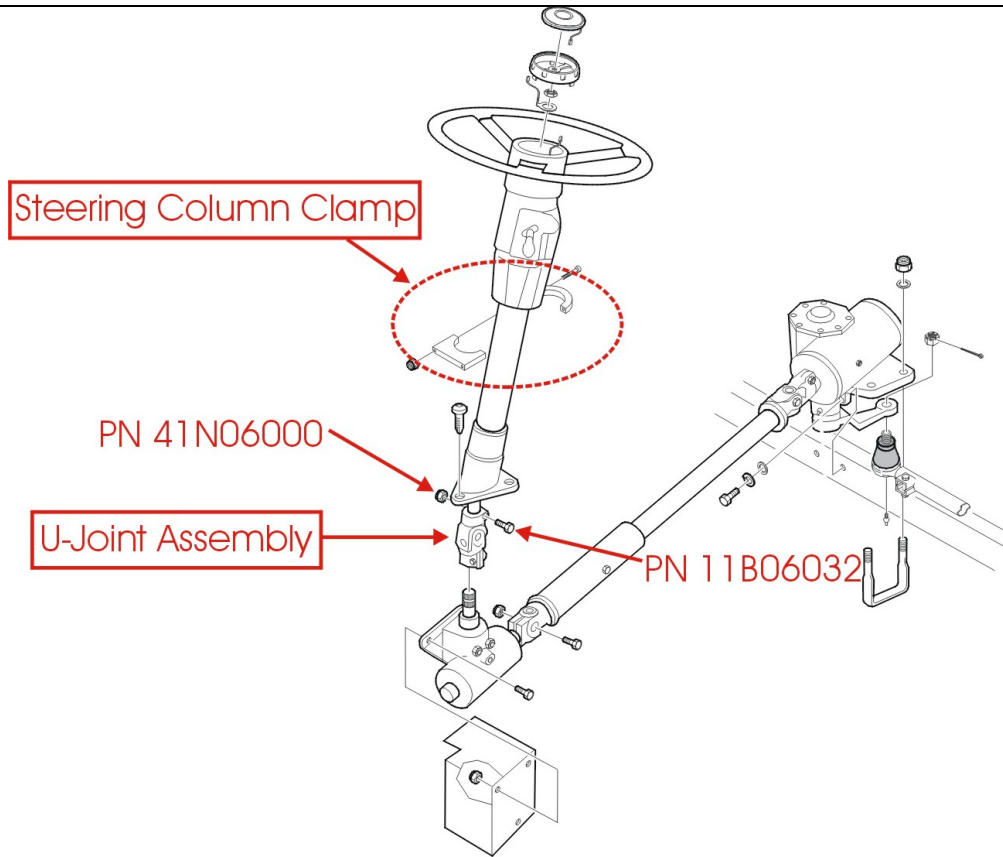

Figure 1: Steering column.
2. Locate U-Joint Assembly as shown in Figure 1.
6. Remove steering column clamp and hardware, set aside for reuse. See Figure 1.
9. Install new U-Joint Assembly (PN 8112157) by installing it on the transfer gearbox first. Use Bolt (PN 11B06032) and Nut (PN 41N06000). Torque bolts between 30 to 35 ft-lbs. When bolt is installed, it must sit in the groove on the transfer gearbox shaft. See Figure 1 & 4.
- i. Install new U-Joint Assembly (PN 8112157) by installing it on the transfer gearbox first. Use Bolt (PN 11B06032) and Nut (PN 41N06000). Torque bolts between 30 to 35 ft-lbs. When bolt is installed, it must sit in the groove on the transfer gearbox shaft. See Figure 1 & 4.
- f. Install new U-Joint Assembly (PN 8112157) by installing it on the transfer gearbox first. Use Bolt (PN 11B06032) and Nut (PN 41N06000). Torque bolts between 30 to 35 ft-lbs. When bolt is installed, it must sit in the groove on the transfer gearbox shaft. See Figure 1 & 4.